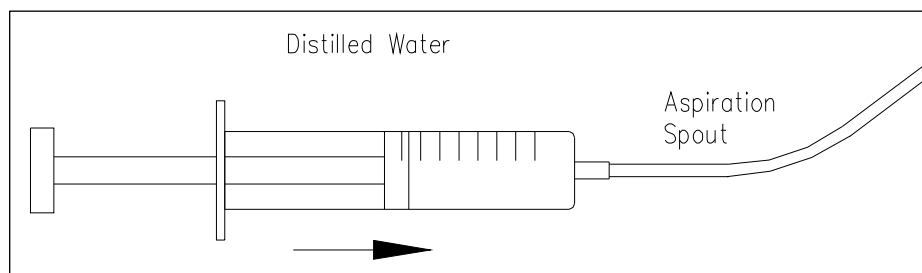

Figure 5: External injection of water towards the peristaltic pump
- If you have any problem during this step (like pump seems not to have enough power to aspirate this distilled water) you can use a syringe (Figure 5) to inject the first 5 ml water directly in the aspiration spout, while pressing the WASH key to keep the peristaltic pump motor running. In such a way you will initialize the peristaltic pump hydraulic and the flow cell, and you will be able to aspirate normally using the WASH button and the SAMPLE LEVER (PUSH BUTTON).